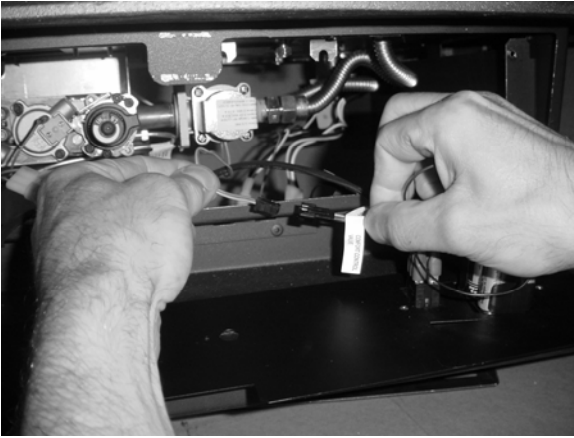
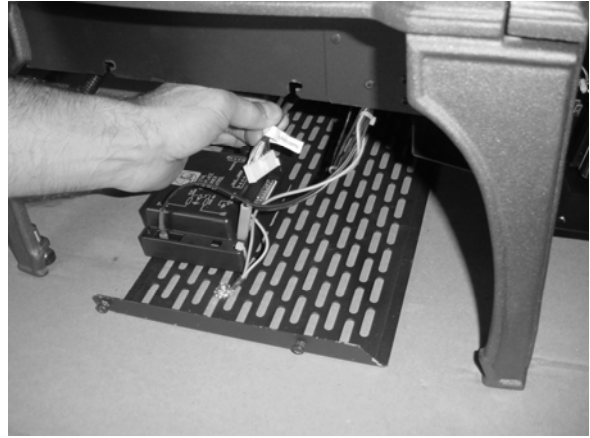

Figure 8
Figure 9
- 6 Disconnect the comfort control valve connection (see Figure 8). Disconnect the burner control connector from the fireplace burner control (see Figure 9).